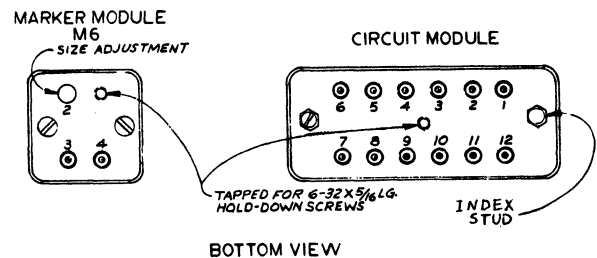

Figure 4-1. Module Pin Numbering
**Module Pin Number System** - The module pins are numbered as shown in Figure 4-1. The module base mounting screws are located off center and are used as a reference for locating pin No. 1.